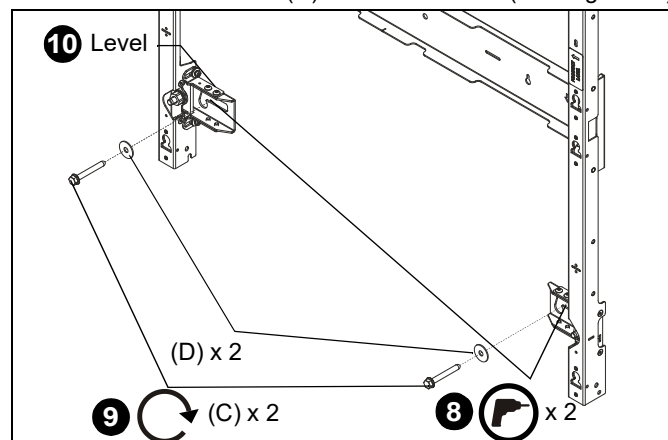

Figure 13
8. Drill pilot holes near top of centerline of lower slots for maximum height adjustment (see Table 1 for size) and follow fastener information (appropriate for wall type) located in Table 1. (See Figure 13)
9. Loosely install 5/16 x 2-1/2" lag screws (C) through the 5/16" fender washers (D) to secure to wall. (See Figure 13)